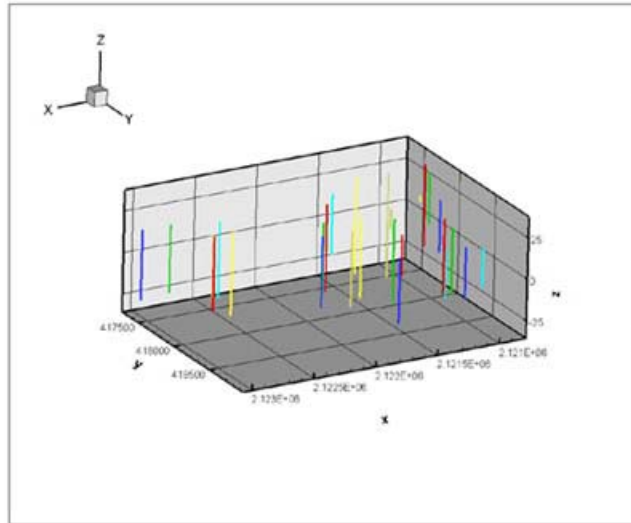

Figure B-10. The Excel well data plotted in Tecplot 360.
- Switch to 3D Cartesian plot mode to see the location and measurement depths of the well samples. The resulting plot is shown in Figure B-10.